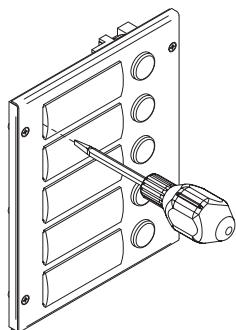

Fig. 13
- Insert a flat screwdriver into the card-holder hole as shown in Fig. 13;